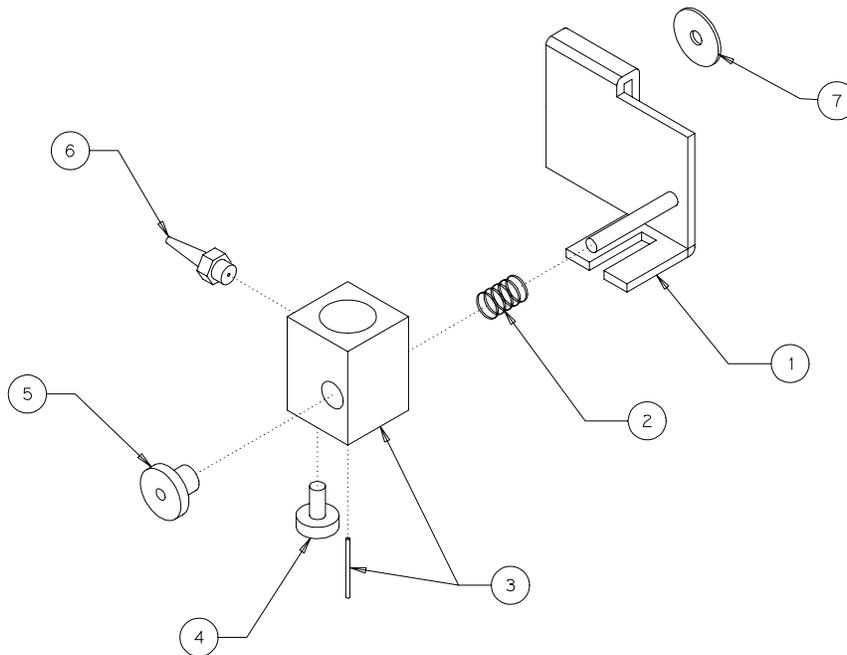

Figure 15 External Chamber Assembly
- Alternatively, you may disassemble the chamber and clean parts individually. Refer to Figure 15 for an exploded view of the chamber assembly. There are relatively few parts and no tools are needed.